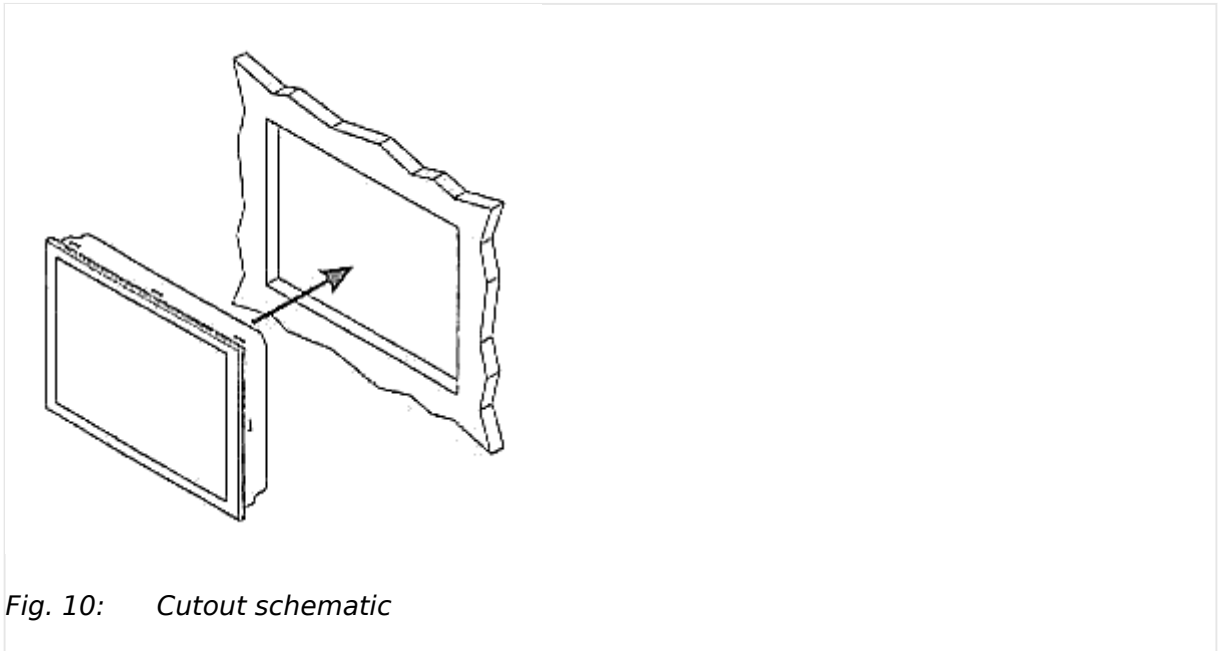
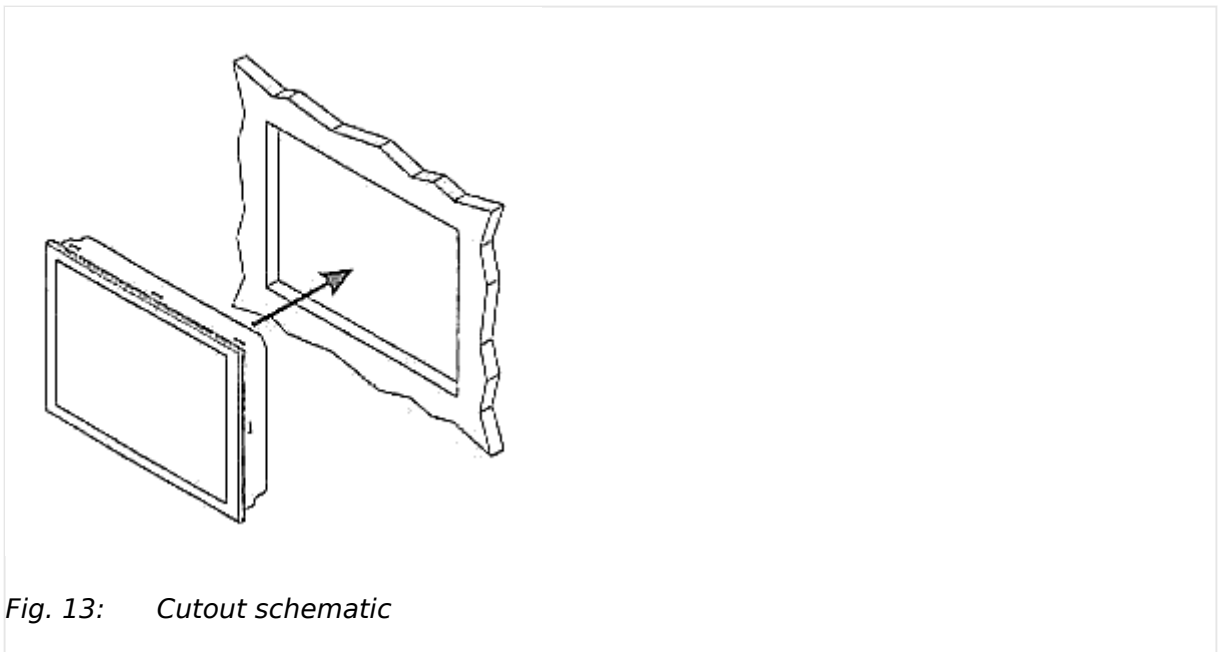

Fig. 10: Cutout schematic
Fig. 13: Cutout schematic
1. > Cut out the panel according to the dimensions in Fig. 7 or Fig. 10 or Fig. 13.